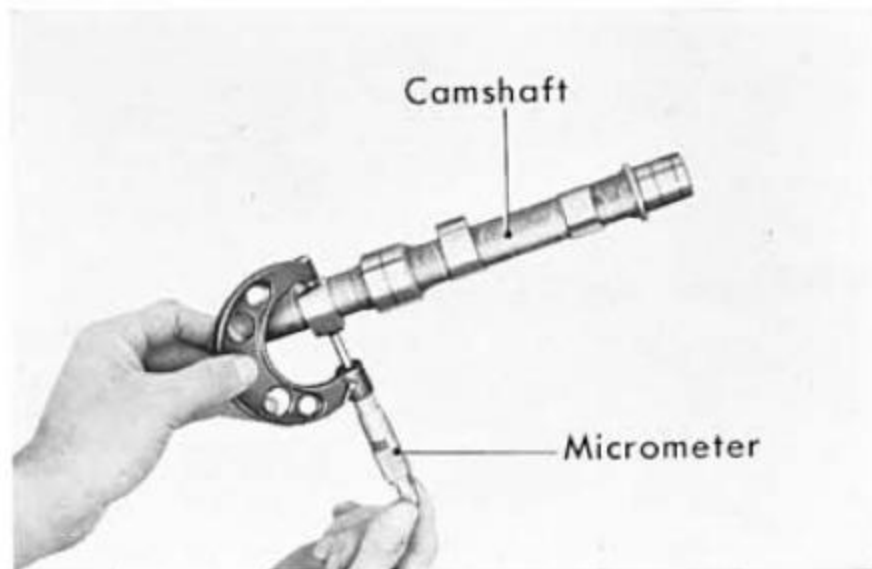

Fig. 1G-16
19. Remove the oil check plug and gasket from the cylinder head (Fig. 1G-13).